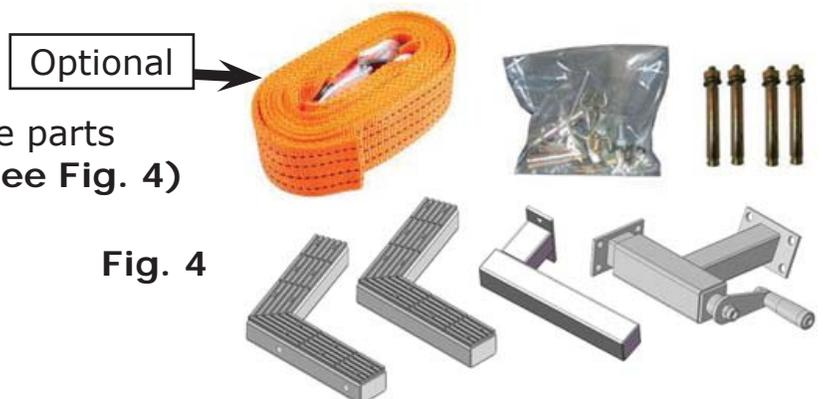

Fig. 4
2. Open the parts box, check the parts according to the parts list. (See Fig. 4)